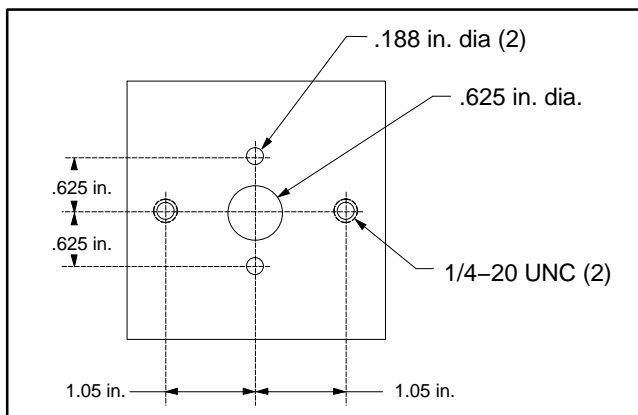

Figure 27
1. Make a seal removal tool from a 1/4 x 3 x 3 in. (.63 x 7.6 x 7.6 cm) piece of steel as shown (Fig. 27).